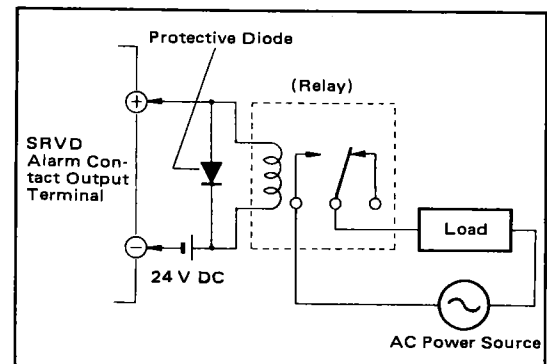

Figure 3-3. Connection of Loads Containing AC Power Source.
- Loads containing AC power sources must not be connected directly. Instead, use relays to operate such loads (See Figure 3-3).